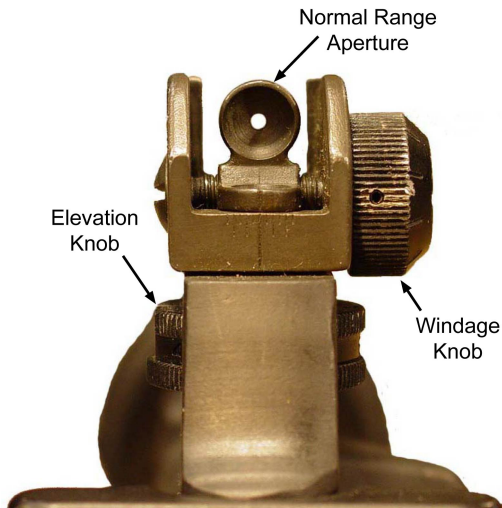

Figure 2-18. Normal Range Aperture
- b. Flip the rear sight aperture so the normal range (smaller diameter) peep is up and ready to use. Rotate the elevation knob in the DN (down) direction counterclockwise until it stops moving. Refer to Figure 2-18.